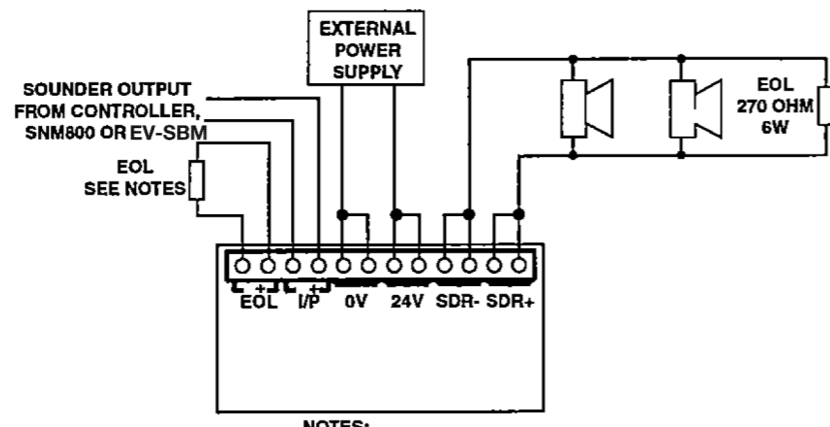

Fig. 3 EV-SBM Simplified Wiring Diagram
- 4) Connect EOL resistor to EOL terminals (-) and (+), See Notes with Fig. 3.